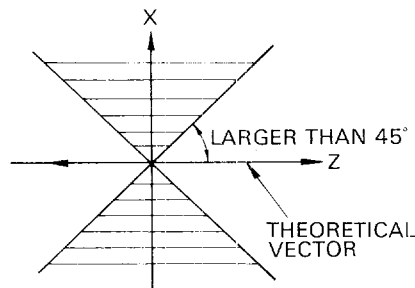

Fig. 11
- (1) Approach $G00 \rightarrow G01$ or recess $G01 \rightarrow G00$
- (a) If the direction of the cutting command moving axis is larger than 45° relative to Z-axis ($|X/2| > |Z|$), a vector (wall) parallel to Z-axis is theoretically erected to make compensation calculations with the cutting moving axis. The tool moves toward this calculated position. See Fig.11.